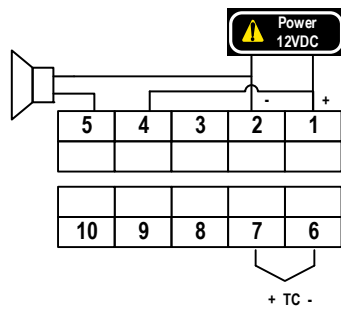

Figure 6. Wiring SYL-1813 with an EGT probe and an alarm buzzer.
Auber's EGT probes are type K thermocouples. To read an Auber's EGT probe, set the sensor type Inty to "k" (P). The gauge is preset for the EGT application. Wire the gauge as the diagram below (Figure 6) and it is ready to go.